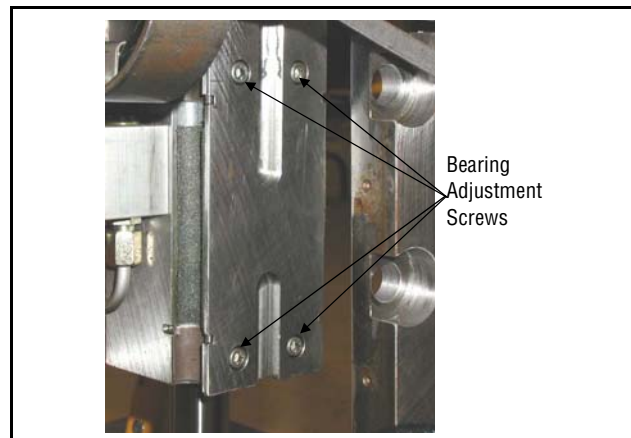

Figure 7-15. Bearing Adjustment Screws
13. Remove four bearings adjustment screws. Apply Loctite 222 and reinstall them hand tight (see Figure 7-15).